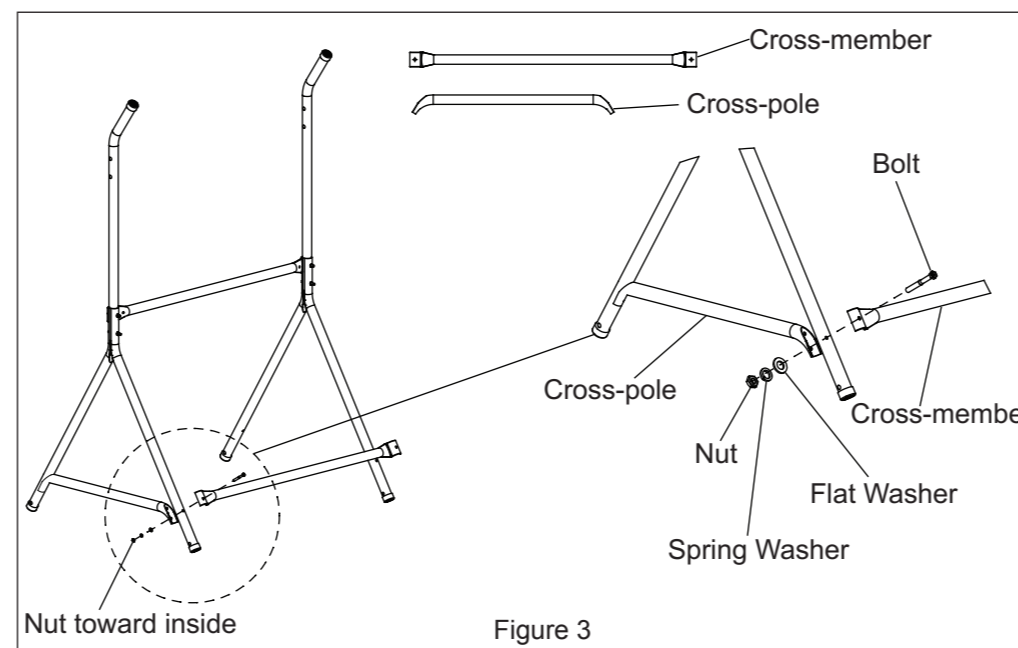

Figure 3
5. As shown in Figure 3, align a cross-pole at the base of one leg angle. Align a cross-member to the front leg assembly with a bolt and through the cross-member, the leg assembly, and the cross-pole. Secure with flat washer, spring washer and nut. Repeat at rear and on both sides of the opposite leg.